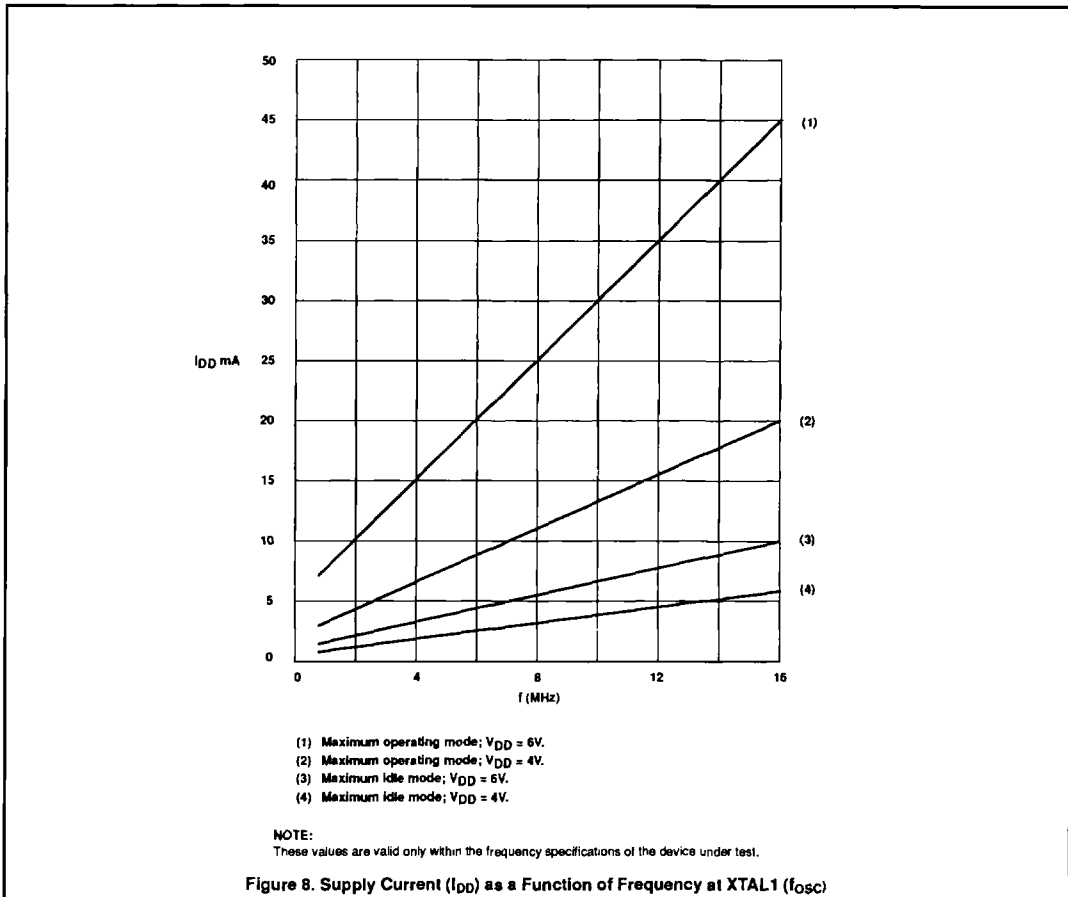

Figure 8. Supply Current ( $I_{DD}$ ) as a Function of Frequency at XTAL1 ( $f_{osc}$ )
- See Figures 8 through 12 for  $I_{DD}$  test conditions.